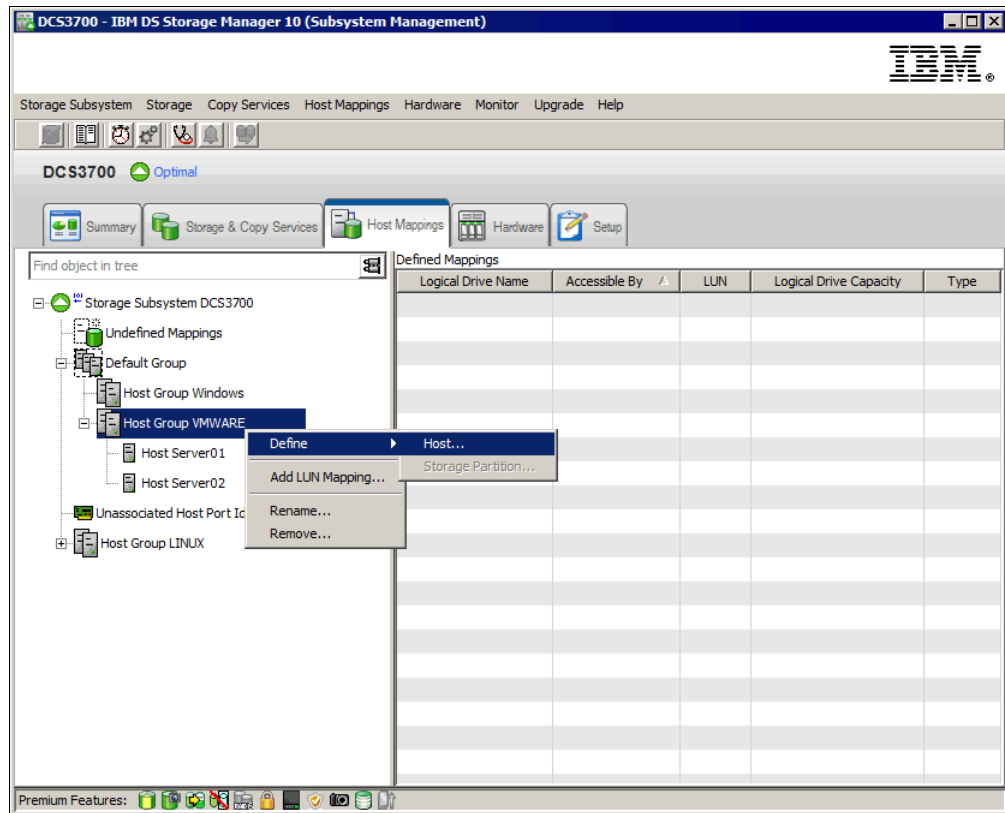

Figure 10-12 Defining hosts
1. Right-click the VMWARE host group and select **Define** → **Host**, as shown in Figure 10-12.